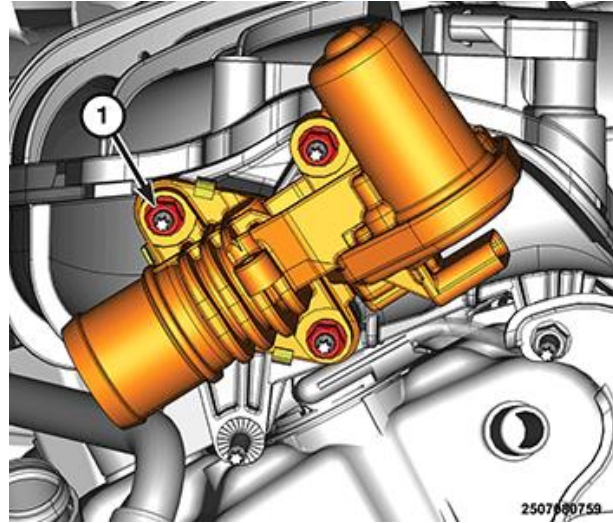

Figure 11 – EGR Nuts and Valve
15. Remove the nuts (1) and the EGR valve (Figure 11).
2. Install the **NEW** EGR valve. Tighten the nuts to 8N·m (71 in. lbs.) (Figure 11).